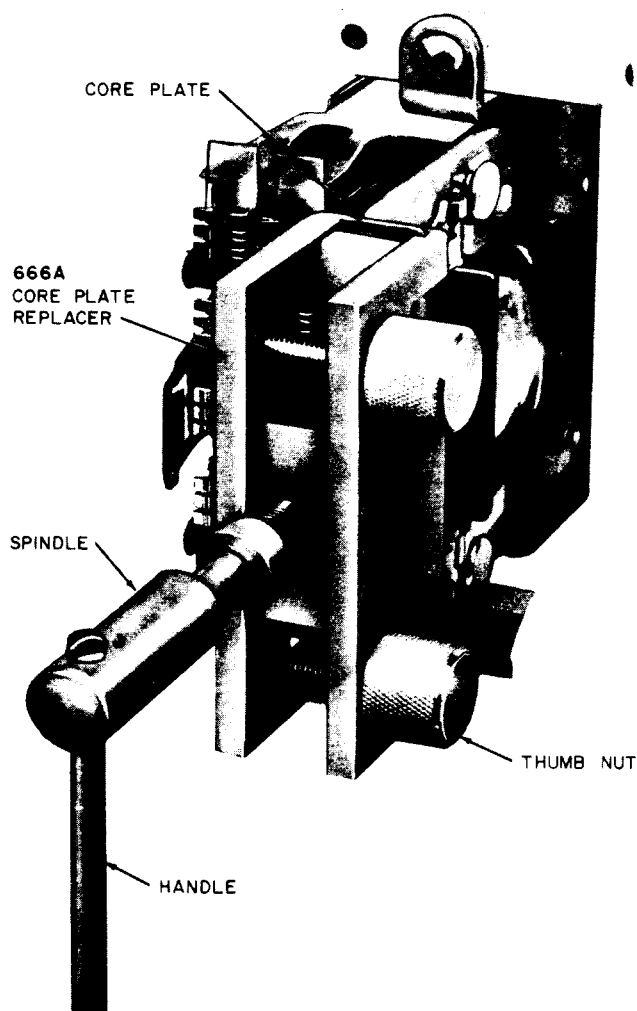

Fig. 5—286-Type Relay Removing Core Plate
over the sides of the core plate with the thumb nuts at the right, as shown in Fig. 5. Tighten the thumb nuts so the replacer firmly engages the core plate. Turn the spindle of the replacer clockwise until the core plate is free of the replacer and remove the replacer and core plate. Do not remove the core plate from the core plate replacer.
3.22 Removing Core Plate: Remove the core plate as follows. Place the 666A core plate replacer on the relay unit so the grooves in the tool fit over the sides of the core plate with the thumb nuts at the right in a position similar to that shown in Fig. 5. Tighten the thumb nuts so the replacer firmly engages the core plate. Turn the spindle of the replacer clockwise until the core plate is free of the core and remove the replacer and core plate. Do not remove the core plate from the core plate replacer.